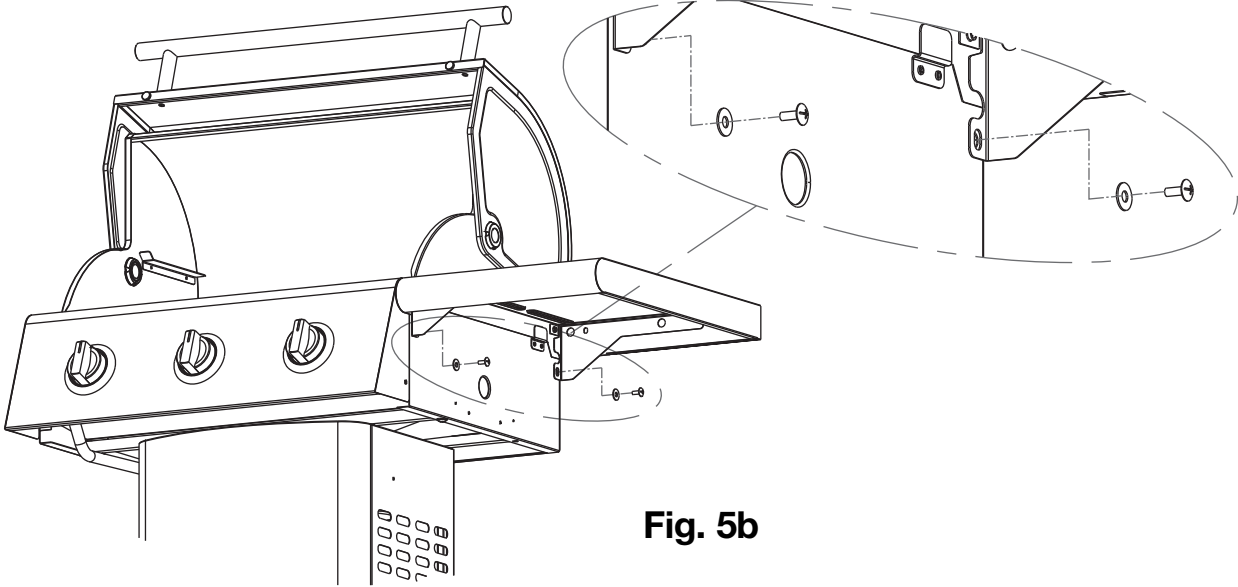

Fig. 5b
2. From the outside of the firebox, attach the right shelf (marked “R”) with two (2) M6 x 13 screws and two (2) M6 flat washers as shown in **Fig. 5b**.